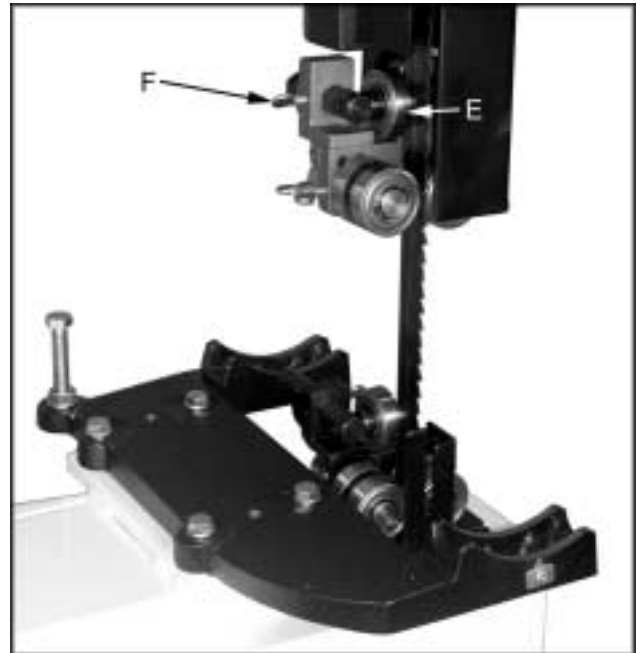

Fig. 2
3. Adjust the back-up bearing (E, Fig. 2) so that it is 0.003" away from the back of the blade, about the thickness of a piece of paper. To make this adjustment loosen thumb screw (F, Fig. 2) and slide the bearing and bearing post into position. Tighten thumb screw.